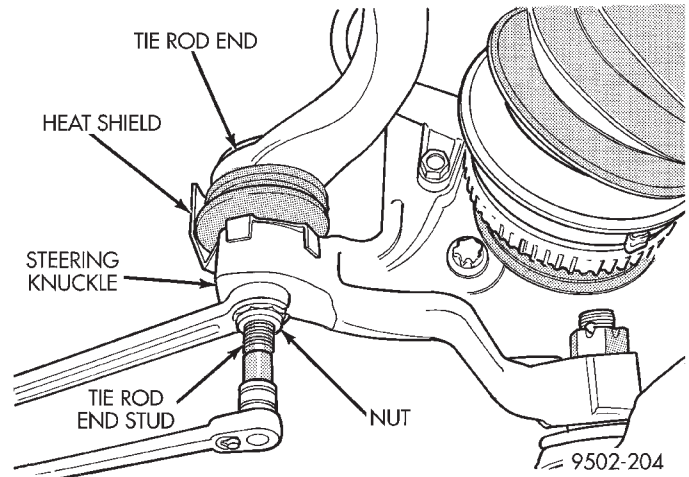
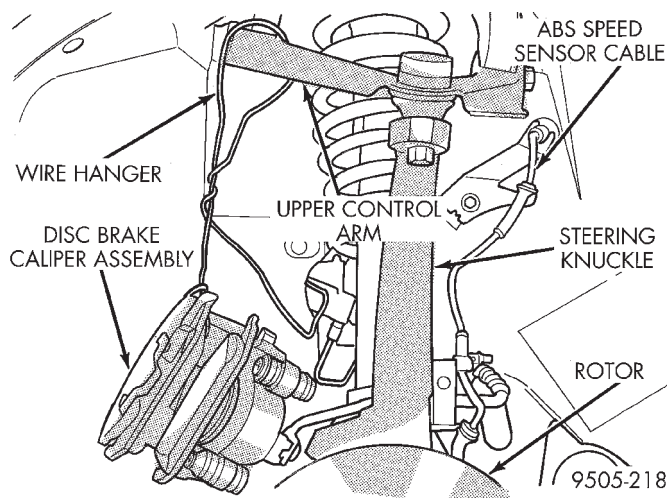

Fig. 7 Removing Tie Rod End Attaching Nut
Fig. 6 Correctly Supported Brake Caliper
(7) Support brake caliper/adaptor assembly using a wire hook (Fig. 6). **Do not support assembly by the brake flex hose.**
(8) Remove braking disc from front hub.
(9) Remove nut attaching outer tie rod end to steering knuckle. **Remove nut from tie rod end by holding tie rod end stud with a 11/32 socket and loosen and remove nut (Fig. 7).**